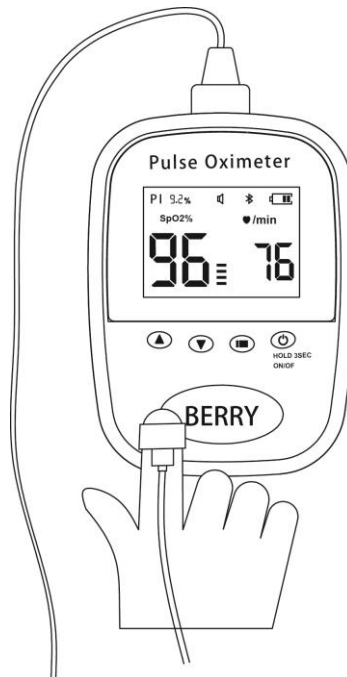

Figure 4
3. Installing the sensor on the appropriate part of the patient's body. (The correct placement as shown in **Figure 4**)
4. Wait a moment, data can be read from the screen. (as shown in **Figure 4**)